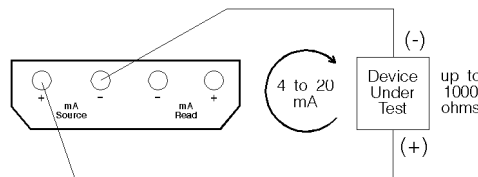

FIGURE 1 - CURRENT SOURCE MODE
1. When operating in the voltage source mode, the CL260 has the capability to drive loads up to 1000 ohms as shown in Figure 1.